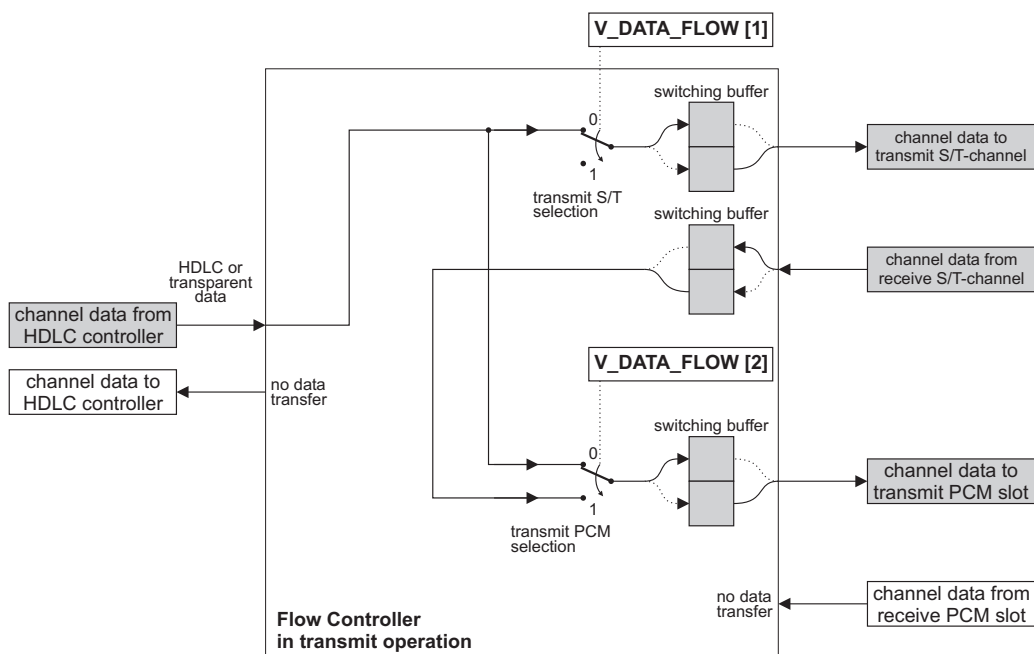

Figure 3.3: The flow controller in transmit operation
In transmit operation one HDLC or transparent byte is read from a FIFO and can be transmitted to the S/T and the PCM interface as shown in Figure 3.3. Furthermore, data can be transmitted from the S/T interface to the PCM interface. From the flow controller point of view, the switches select the source for outgoing data. They are controlled by bitmap `V_DATA_FLOW[2..1]` in register `A_CON_HDLC[n, TX]` where `n` is a FIFO number. Transmit operation is configured with `V_FIFO_DIR = '0'` in the multi-register `R_FIFO`.
- The PCM interface can transmit a data byte which comes either from the FIFO or from the S/T interface. Bit `V_DATA_FLOW[2]` selects the source for the PCM transmit slot (see Figure 3.3). The receiving S/T-channel has always the same number as the transmitting S/T-channel .